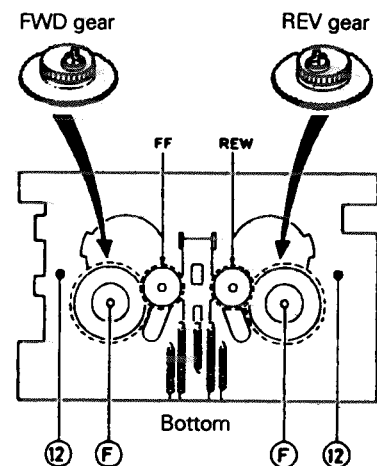

Fig. 2-18
■ Removal of cam gear (See Fig. 2-18)